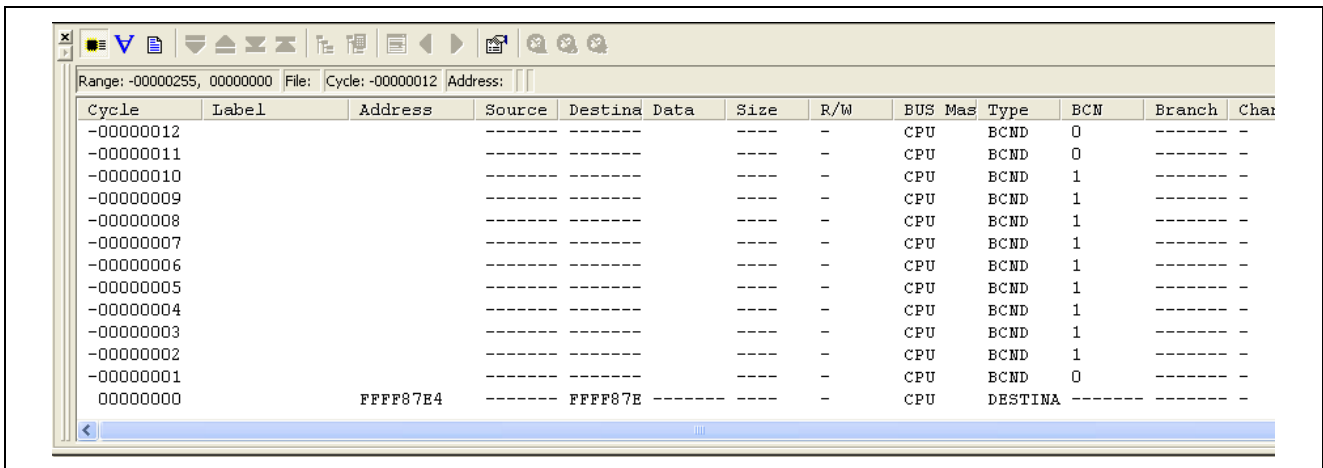
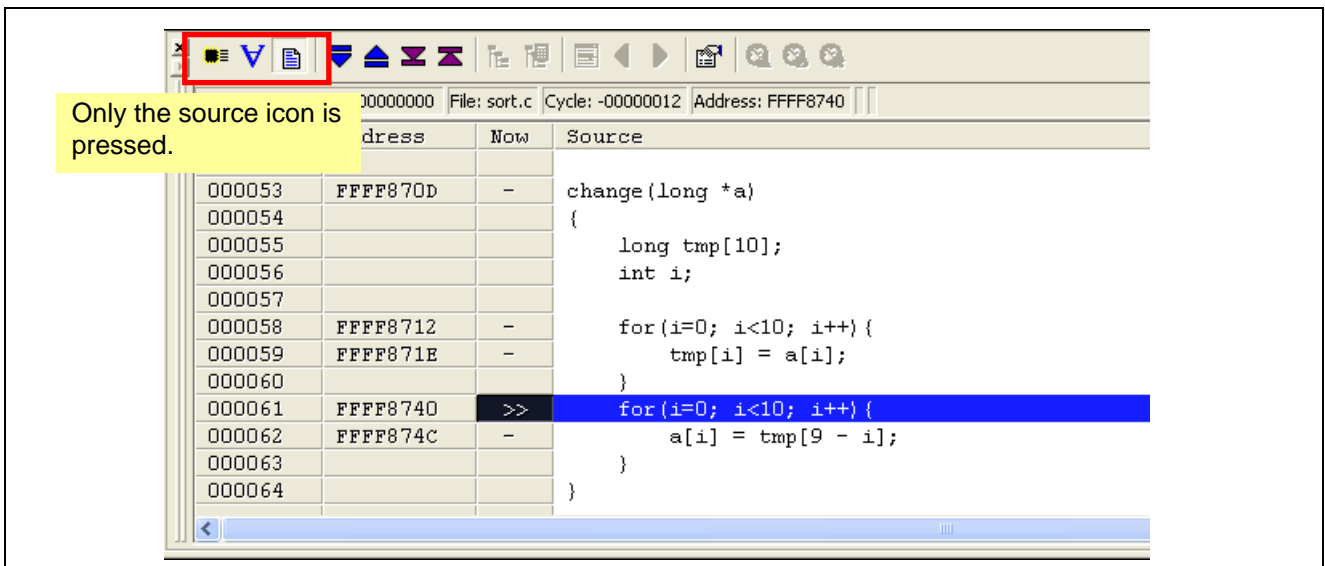

Figure 4.63 [Trace] Window after a Break (Bus Display Mode)
Figure 4.64 Source Display Mode
- (5) Click on the [Reset Go] button to start program execution. When execution is temporarily stopped at the specified breakpoint, the [Trace] window will be updated. The [Trace] window shows the track of program execution.
- (6) Click on the display mode switching button to change from the bus display mode (Figure 4.63) to the source display mode (Figure 4.64).